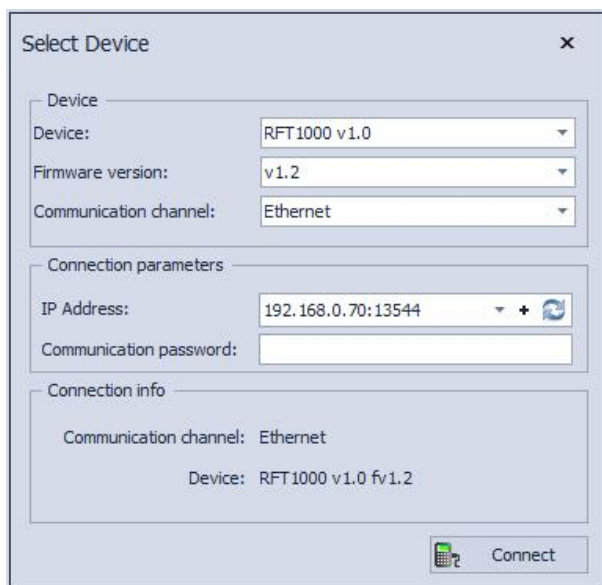
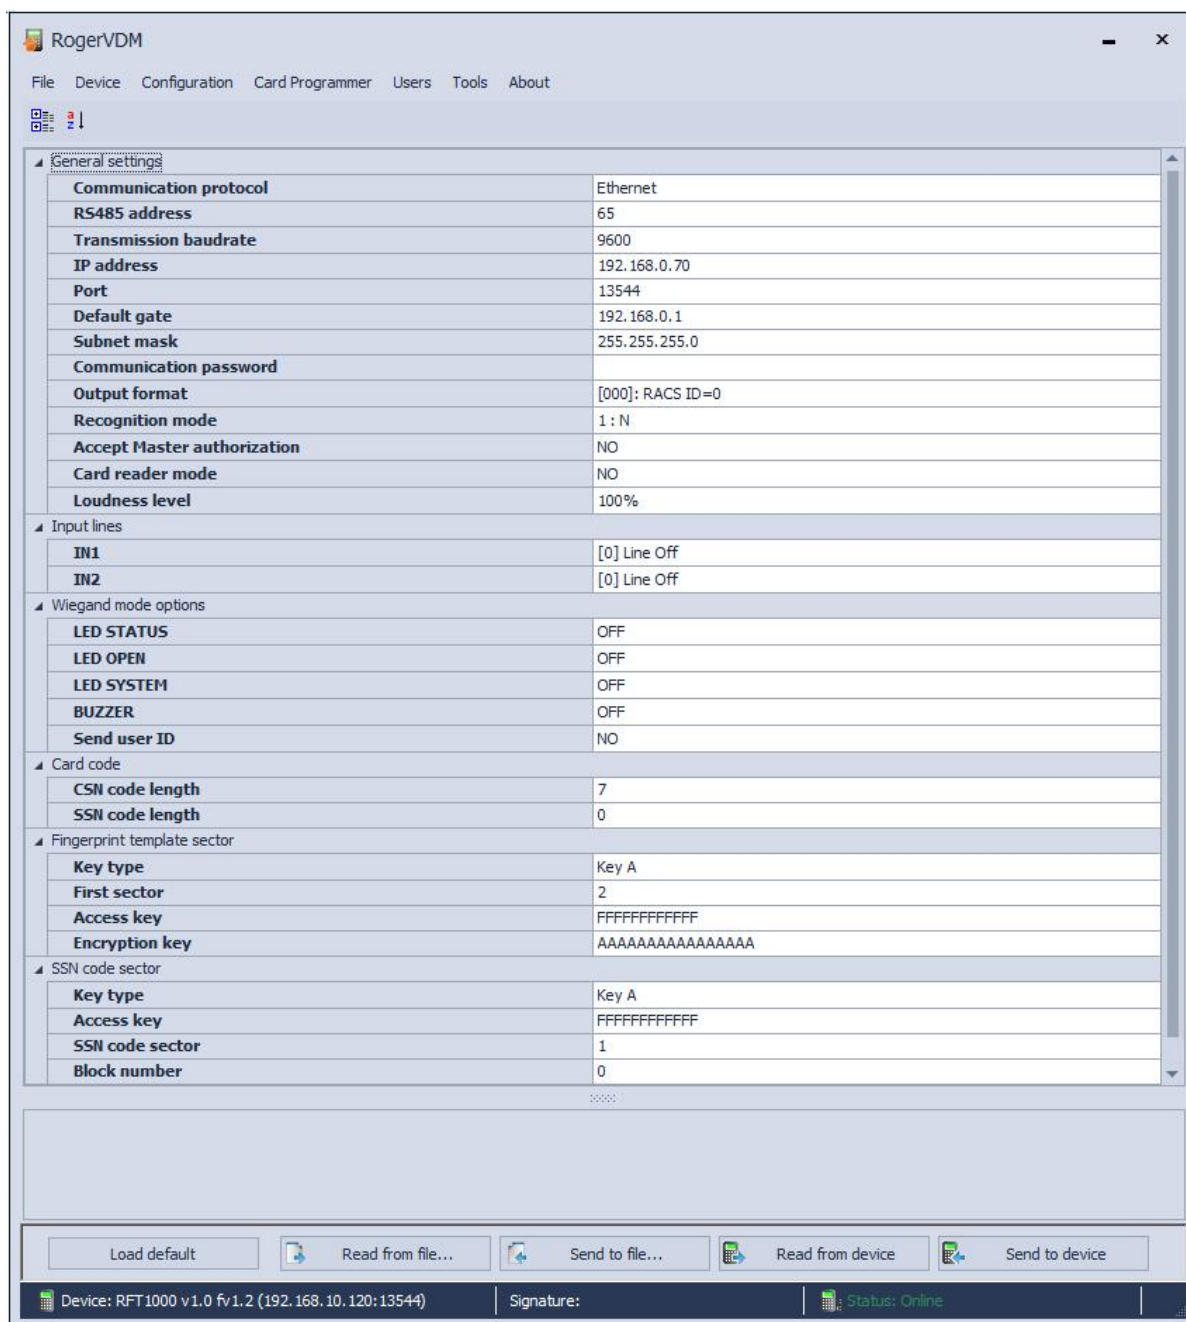
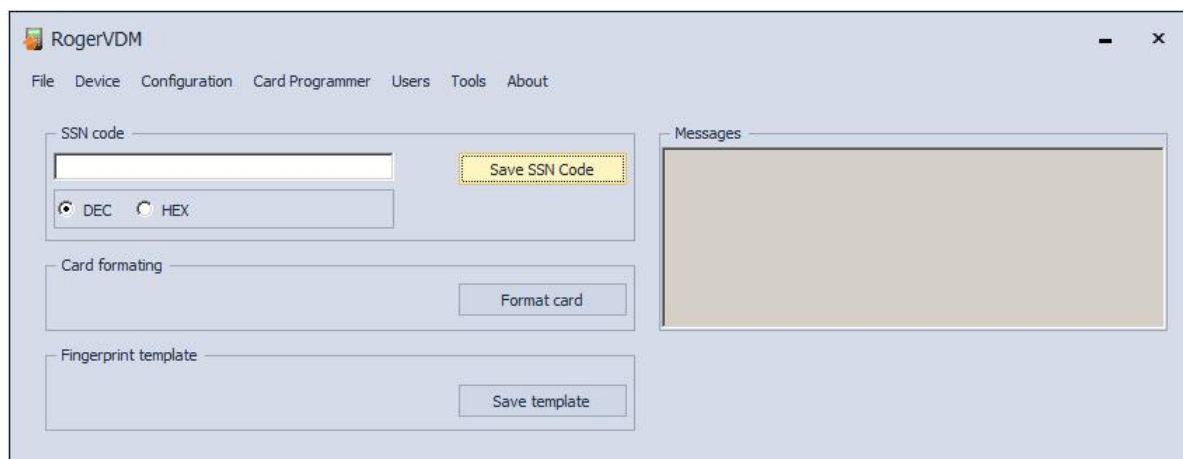

Fig. 6 Connection with RogerVDM software
Fig. 7 Configuration window in RogerVDM software
Fig. 9 Card programmer window
4. In the newly opened window (see fig.6) select **RFT1000 v1.0** device, firmware version **1.2** and then **Ethernet** communication channel.
After establishing the connection it is possible to modify communication parameters both for Ethernet and RS485 communication in the newly opened window, which can be accessed by selecting the option **Configuration** in the top menu. In the area **General settings** (see fig. 7) enter your settings and then upload the configuration to the reader by means of **Send to device** button.
Additionally according to table 3, in the area **Wiegand mode options** (see fig. 7) it is possible to configure the reaction of LED indicators and buzzer for certain actions performed by the reader.
RFT1000 reader can operate in two recognition modes, which are selected by means of the option **Recognition mode** in the **General settings** area of the window opened with the option **Configuration** in RogerVDM software (see fig. 7).
In 1:N mode, list of users is recorded in RFT1000 memory. Each user should have his ID number, card number, and 1 to 10 fingerprint templates. The identification of user in 1:N mode consists in reading his fingerprint or card number by RFT1000. In case of successful recognition, user card number or user ID number is sent to master device by means of Wiegand interface. If user ID number is to be sent instead of his card number then the option **Send user ID** must be activated in the area **Wiegand mode options** (see fig. 7). In such case, master device must be properly configured in order to identify such ID numbers.
If the option **Accept Master authorization** in **General settings area** (see fig. 7) is activated then users with Master attribute are not required to scan their fingerprints and they can use their cards for successful identification.
After selection of 1:1 mode, user enrolment consists in selection of **Add** button in **Users** area and entering his ID number, name and card number. Card number can be entered manually or read by means of built-in MIFARE reader when **Read** button is selected. In the next step it is necessary to open the window for card programming by means of the option **Card Programmer** in the top menu of RogerVDM software (see fig. 9). In the newly opened window, MIFARE card can be formatted (erased) by means of the button **Format card** and then fingerprint template can be recorded in card's memory by means of the button **Save template**. After selection of **Save template** button Fingerprint saving wizard is started and it is required to proceed according to displayed messages. The operation can be repeated and successive fingerprint templates can be recorded until card memory is full. In the last step of the wizard the parameter **User with Master attribute** can be selected and users with such attribute are not obliged to scan their fingerprints for all RFT1000 readers with **Accept authorization master** option in **General settings area** (see fig. 7) activated. For such user, card number is sufficient for identification. It is also possible to define sectors in MIFARE Classic memory cards, where fingerprints templates are to be recorded. Related options are available in the configuration window in the area **Fingerprint template sector** (see fig. 7):
User identification by configured RFT1000 reader depends on selected recognition mode (see section 4.4), input with function **[5]: Card Reader Mode** (see section 4.3) and option **Card reader mode** (see fig. 7). Input **[5]** is used for dynamic switching of user identification method in such way that it depends on input state. More information on application of the input **[5]** is given in table 4 below. The option **Card Reader Mode** is applicable only for 1:N recognition mode and it enables permanent activation of card reader in RFT1000. When this option is selected then user can identify by means of card or fingerprint template as needed.
MIFARE Classic and MIFARE Ultralight cards have their read-only serial numbers called CSN and memory, where administrator defined number called SSN can be stored. Optional SSN code provides additional security as it can be saved in administrator defined sector and it can be protected with access code against unauthorized reading. RogerVDM software enables defining of SSN code and recording it to any available sector of MIFARE card memory. RFT1000 reader can identify particular card (user) by means of CSN code, SSN code or combination of both but the total number cannot exceed 11 bytes. Options related to reading of CSN and SSN codes are available in **Card code** area of reader configuration window (see fig. 7)
SSN code as opposite to CSN code of MIFARE card can be defined by administrator. SSN Code as well as its sector in memory and method for recording can be indicated by administrator. SSN code can be defined and recorded by means of RogerVDM options, which are available in the area **SSN code** in the **Card programmer** window (see fig. 9). After selection of **Save SSN code** button it is necessary to hold the card in vicinity of RFT1000 reader. The code can be entered in decimal or hexadecimal format. Location and recording method can be defined by means of options, which are available in the area **SSN code sector** (see fig. 7):
The option **Send to device...** on reader configuration window (see fig. 7) enables exporting of RFT settings excluding users data base, while the option **Send configuration to file** which is available after selection of **File** option in the top menu of RogerVDM software enables exporting of RFT1000 full configuration including users data base. Following options are used respectively for reading configuration: **Read from device** (see fig. 7) and **Read configuration from file**, which is available by selection of File option in the top menu of RogerVDM software.
The communication with RFT1000 reader both in case of Ethernet and RS485 port can be encrypted with AES128 CBC standard. By default, encryption is conducted with empty communication password. Administrator can define his own communication password (max. 16 digits) in reader configuration window in the field **Communication password** (see fig. 7). Such password must be then entered when establishing connection with the reader by means of RogerVDM (see fig. 6).